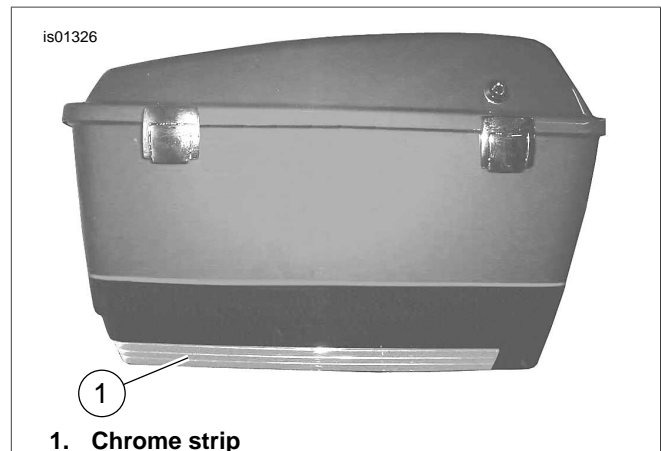

Figure 2. Removable Chrome Strip
5. See Figure 2. Remove chrome strips from Tour-Pak by removing two T15 TORX® screws. Retain screws for later use.